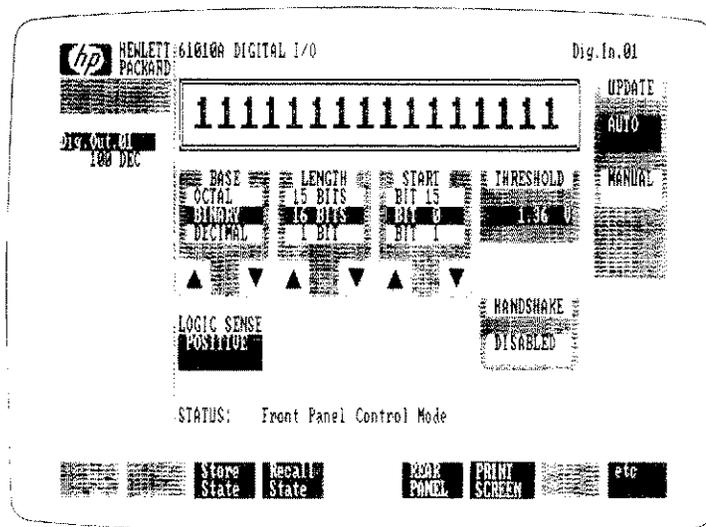

Figure 2-10. All Input Bits High
**The Result** - The input display now indicates 1111111111111111 which shows all 16 bits high (see Figure 2-10). Input bit 0 (the LSB) is on the right, and input bit 15 (the MSB) is on the left. Because binary is the selected base, the complement field disappeared from the screen because it no longer applies. To try out a different instrument at this time, go to Chapter 2 of its manual. Otherwise, press the **etc.** and then the **EXIT** softkey.